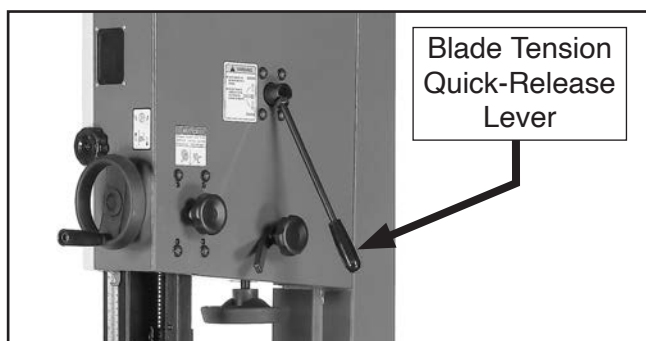

Figure 39. Blade tension quick-release lever in down position, applying tension to blade.
3. Move blade tension quick-release lever down to apply tension to blade (see **Figure 39**).